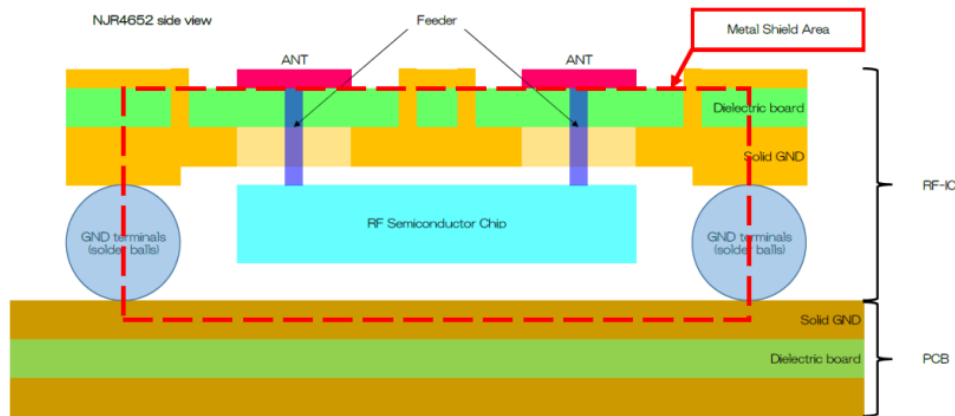

Fig. 1:Side View
- All of electric parts are covered with the resin. The RF-IC consists of a semiconductor chip and a dielectric substrate, and the RF circuit is completed within the semiconductor chip. The dielectric board is configured as part of the antenna and feeders. (Fig.1) The RF-IC's GND terminals (solder balls) are located at a distance shorter than the wavelength of 60 GHz and is connected to the solid GND of the printed circuit board. (Fig.2)